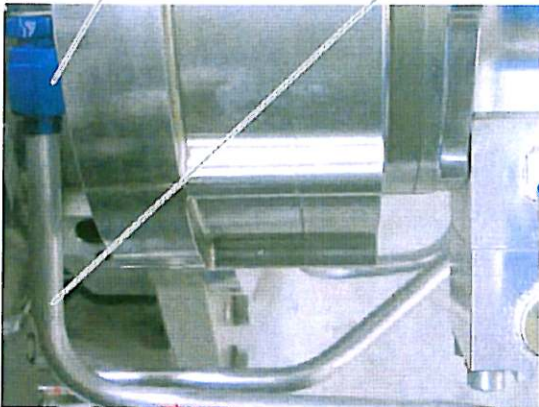

Figure 3
3. Detach the union of the aluminium pipe nut at the rotary feed-through while holding the adapter steady. See Figure 3.